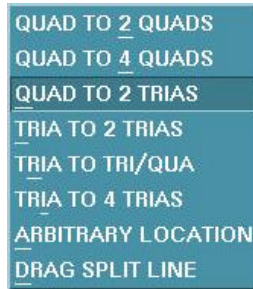

Figure 6.3.15 Shell Split
- Select the button beside SHELL to activate the shell options, see Figure 6.3.15.